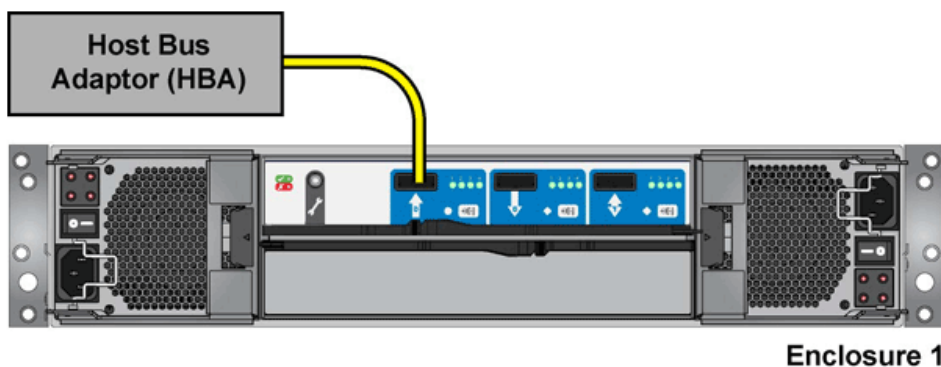

Figure 3-7 - Single Host - Single Enclosure
- Single Host, Single Connection, shown in Figure 3-7